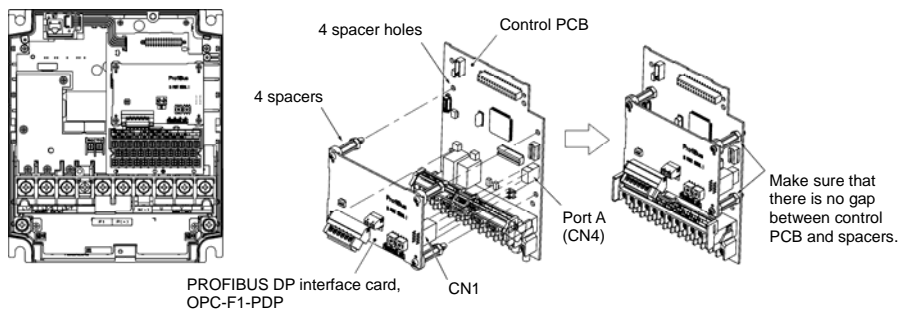

Figure 7 FRN7.5F1S-2J to
- (1) Remove the covers from the inverter to expose the control printed circuit (Figure 7).